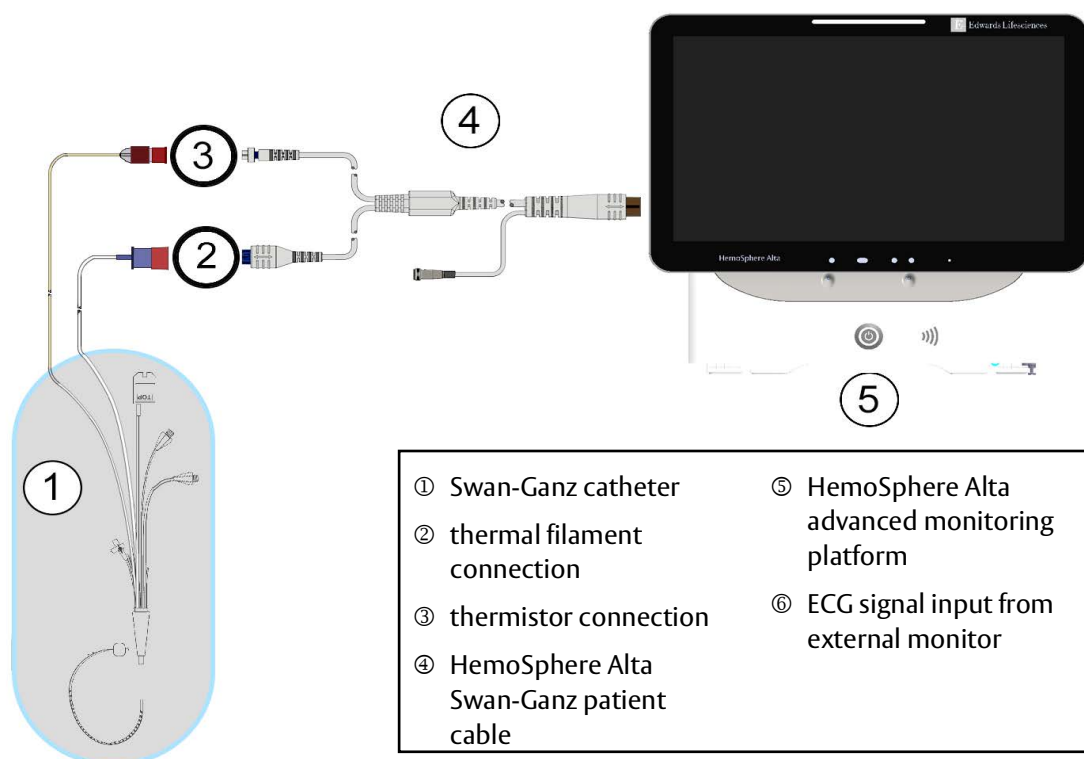

Figure 8-6 EDV/RVEF connection overview
- 2 Attach the catheter end of the patient cable to the thermistor and thermal filament connectors on the Swan-Ganz CCombo V catheter. These connections are emphasized by ② and ③ in figure 8-6.